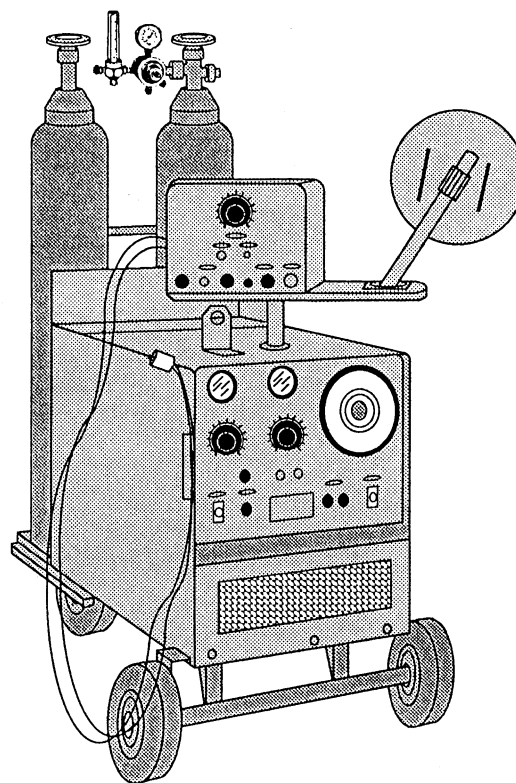

Figure 8-25.—Constant voltage (CV) power unit.
A *constant voltage (CV)* power source was developed to overcome the inconsistent voltage characteristics of a conventional welding machine, (See fig. 8-25). It can be either a dc rectifier or motor generator that supplies current with normal limits of 200 to 250 amperes.